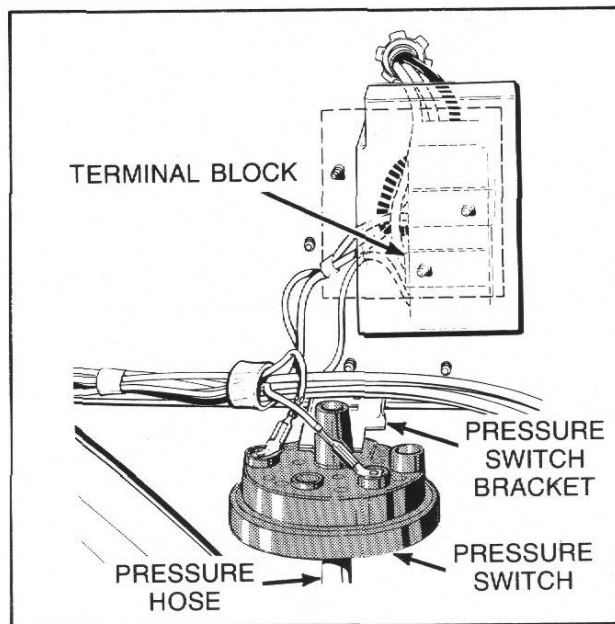

Figure 20
**20. TERMINAL BLOCK (Refer to Figure 20)**
- e. Disconnect pressure hose from pressure switch, *Figure 20*.
- g. Remove screw holding pressure switch and bracket to rear cross channel, *Figure 20*.